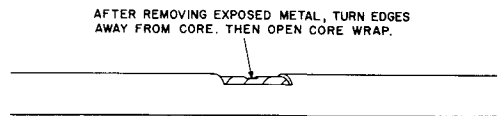

Fig. 8—Metal Removal at Valve Point
- (2) Remove the underlying metal layers, taking care not to damage the core wrap. Carefully turn the metal edges away from the core wrap and remove any slivers. Then open the core wrap slightly (Fig. 8).